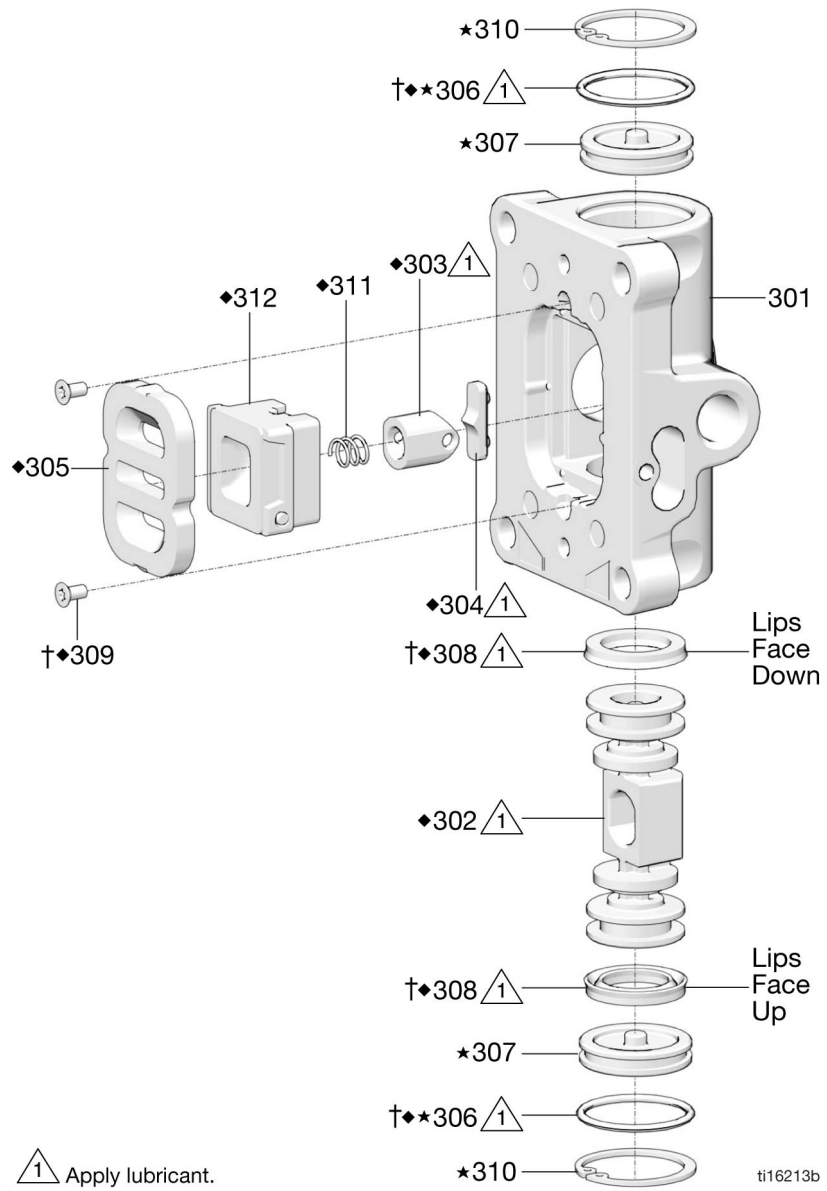

FIG. 15. Pneumatic Valve Assembly
4. Remove the four screws (211).
5. Remove the pneumatic valve (214) and the gasket (209*♦). see FIG. 15 on page 25.
7. Align the new pneumatic valve gasket (209*♦) on the manifold, then attach the pneumatic valve (214). Torque screws (211) to 95-105 in-lb (11-12 N•m).
5. Remove end cap o-rings (306  ). See FIG. 15, page 25.
1. Lubricate detent cam (304♦) and install into housing. See FIG. 15, page 25.
3. See FIG. 15, page 25. Lubricate both ends of the piston (302♦) and install it in the housing.